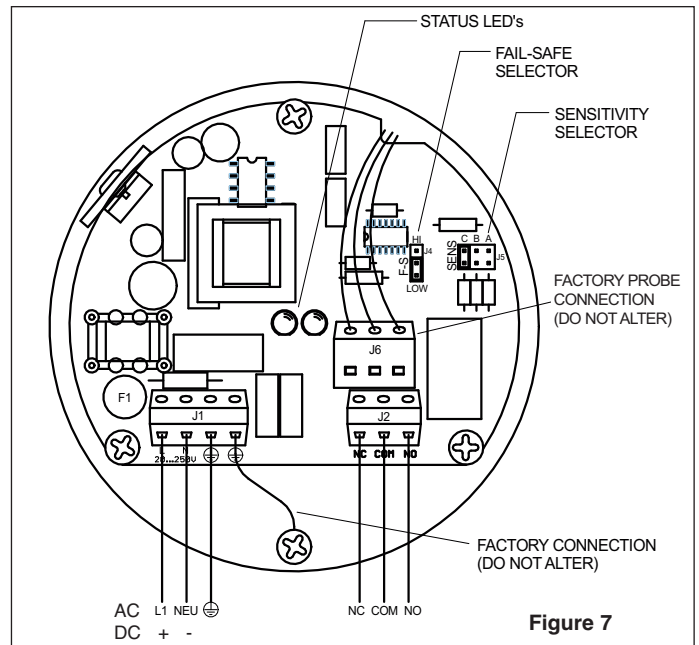

Figure 7
The probe wires internal to the housing are connected to the frontside of the PCB. **DO NOT** alter this connection. Doing so will likely cause improper operation of the sensor and likely permanent damage. (See Figure 7)
- 2) **Power Input:** (See Figure 7) The **VibraRod** sensor is provided with a HI / LOW voltage, AC/DC universal power supply. If using a DC power supply, polarity is irrelevant.
Fail-Safe (Selector "J4" in Figure 7):